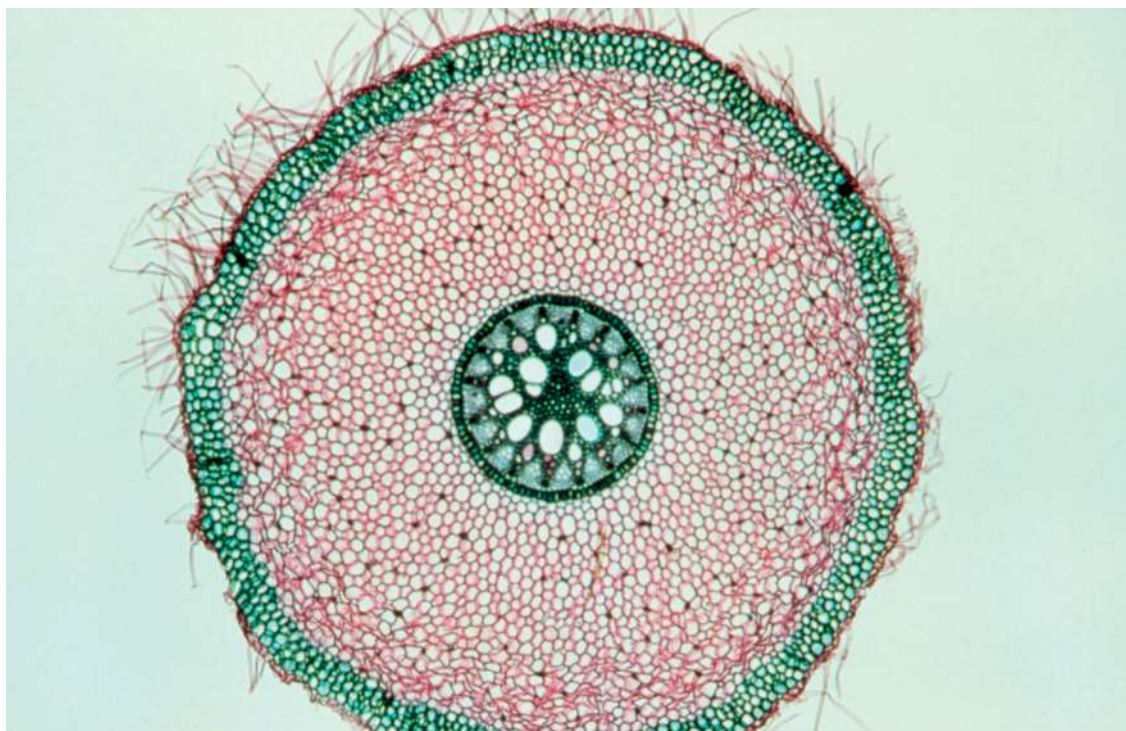
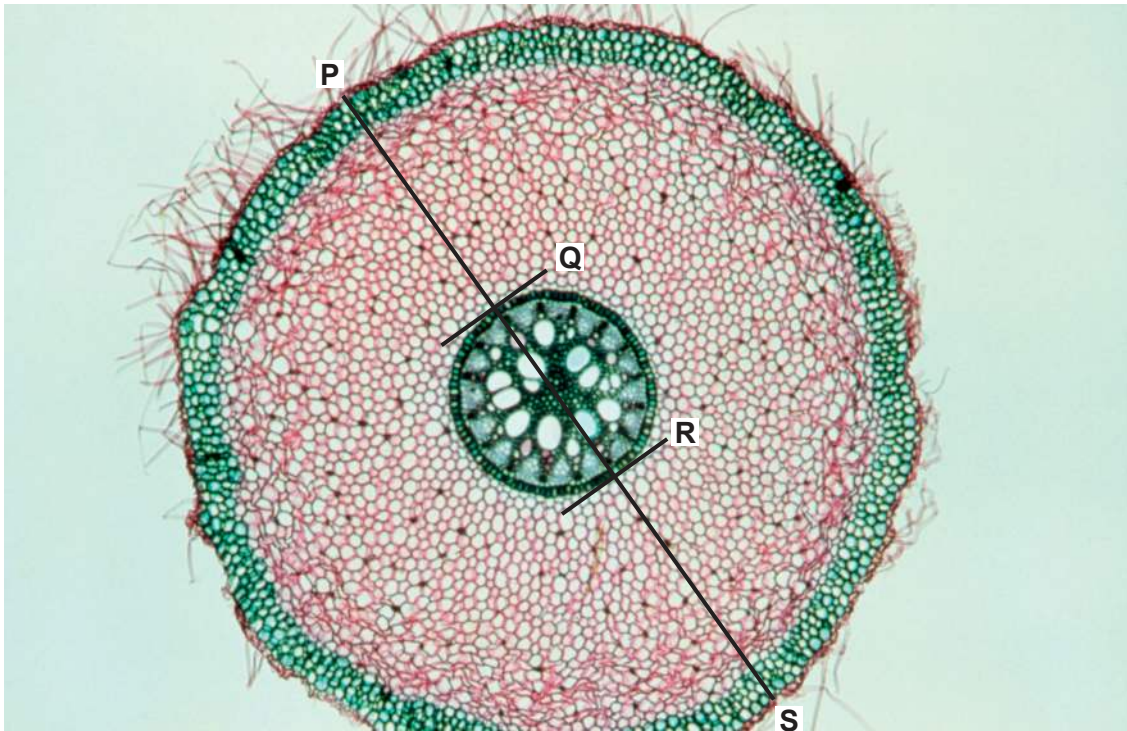

Fig. 2.1
Fig. 2.3
2 Fig. 2.1 is a photomicrograph of a stained transverse section through a plant root.
- (b) Identify observable similarities **and** differences between the root section in Fig. 2.1 and the root section on **J1**.
(c) Fig. 2.3 is a photomicrograph of the same root section as in Fig. 2.1.